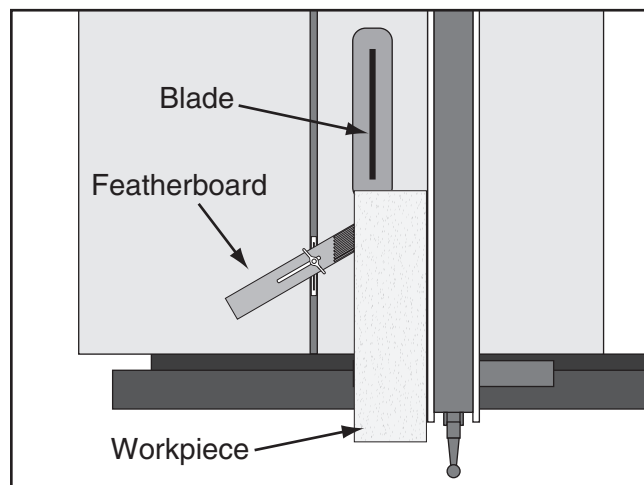

Figure 95. Featherboard installed in miter slot and supporting workpiece for ripping cut.
3. Slide the featherboard miter bar into the miter slot, making sure the fingers point toward the blade, as shown in **Figure 95**.